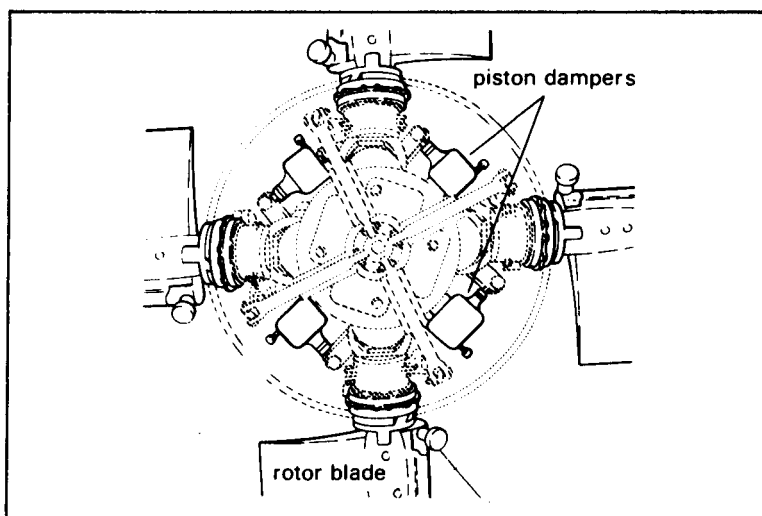

Figure 11-5. Tail rotor assembly with piston dampers.
- **Tail rotor pedal damper.** Piston-type dampers are used on some helicopters that have power-assisted tail rotor control systems. The dampers are connected to the pedals to prevent rapid pedal movement. (See Figure 11-5.) If the pedals move too rapidly, an excessively fast yaw movement of the aircraft results; this could cause structural damage.